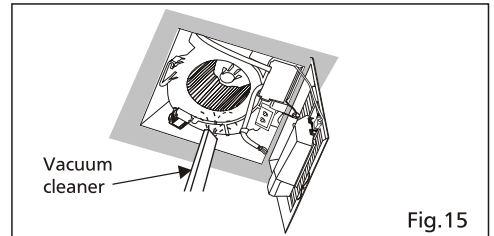

Fig.15
4. Remove dust and dirt from fan body using a vacuum cleaner. (Fig.15)